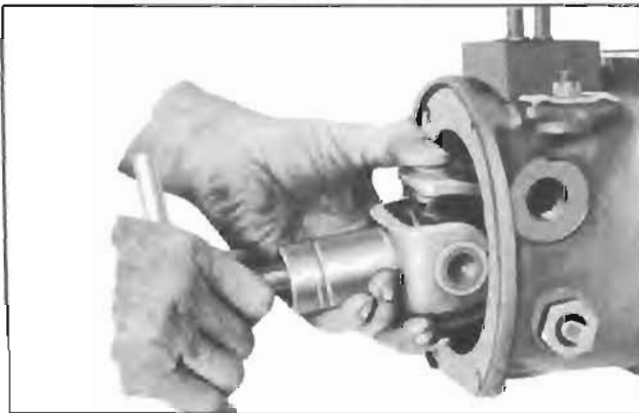

Figure 4-86—Removing Universal Joint With Puller
6. Pull universal joint from output shaft, using Universal Joint Puller J 682-A (Ser. 40-44-50) or J 859-A (Ser. 70) if joint cannot be removed by hand. See figure 4-86.